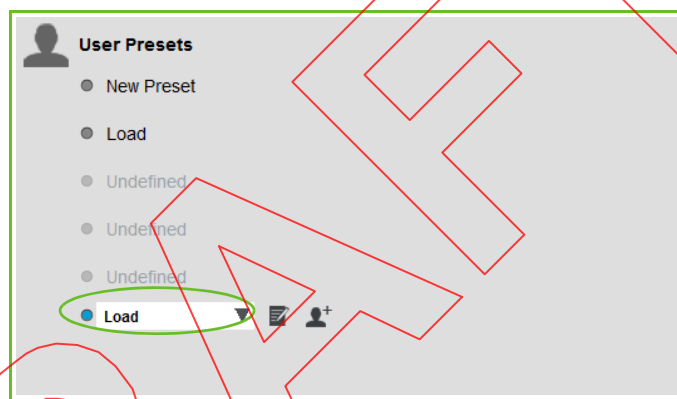

Figure 11-21. List of User Presets
- Organize the order of the existing user presets. Only the first 5 user presets in the list (a.k.a. favorite user presets) appear in the list in the Remote Positioning Controls Auto mode panel. All other presets are available via the drop down menu that appears below the list of favorite presets (see Figure 11-21).
Note: The first 5 user presets in the list (a.k.a. favorite user presets, which appear in the MANAGE PRESETS MENU next to slots 1 to 5) appear in the list in the Remote Positioning Controls panel. All other presets are available via the drop down menu that appears below the list of favorite presets (see Figure 11-21).